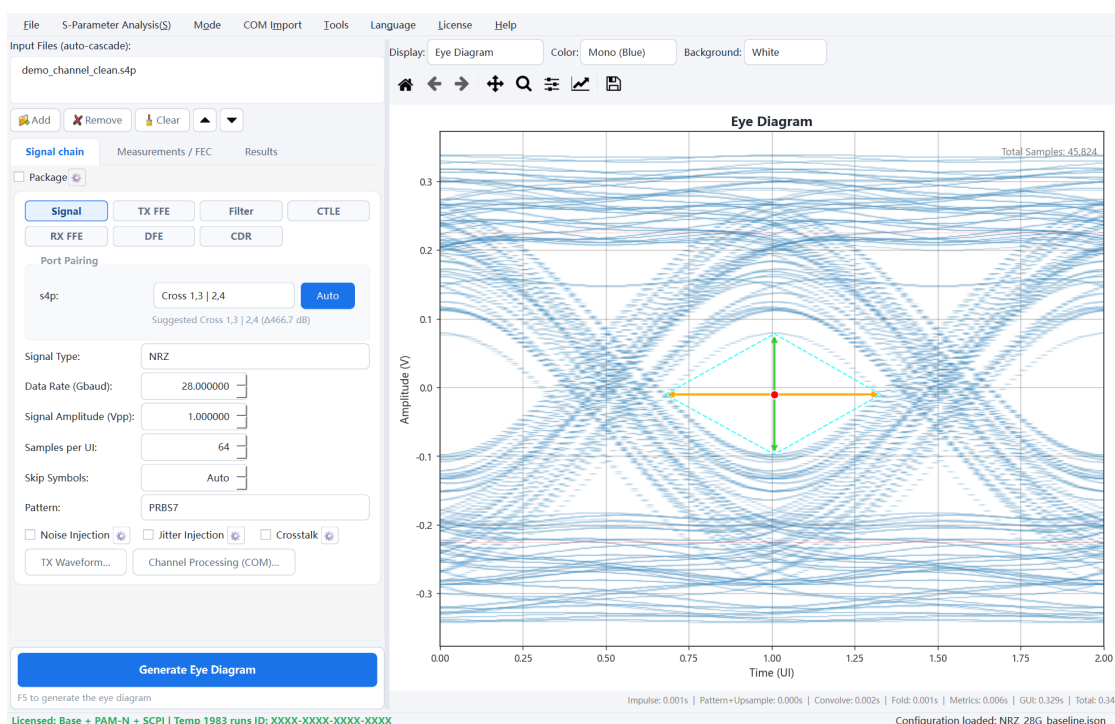
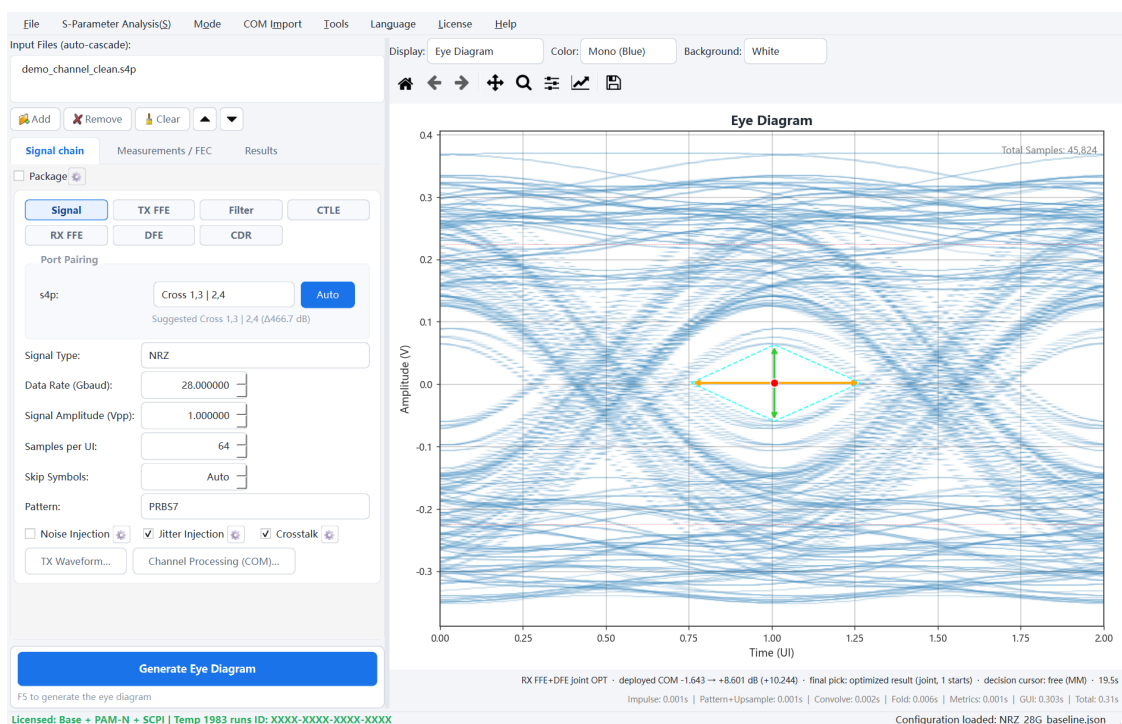

Fig. 1-3 Clean channel + defaults: a wide-open eye
Fig. 4-1 The same channel with crosstalk + jitter
Step 4 Click the fixed bottom **"Generate Eye Diagram"** button, or press F5. When calculation finishes, your first eye appears (Fig. 1-3).
Step 1 Return to Normal, clear "Input Files", add demo\sparams\demo_channel_clean.s4p, then load demo\configs\NRZ_28G_baseline.json. Generate an unimpaired eye first: it should match the trend in Fig. 1-3. Changing only the channel leaves the PAM4 rate and equalizers from Step 3 active.
Step 4 Generate the eye and compare with Fig. 1-3: the eye is fuzzier and margin is reduced (Fig. 4-1) — that is the margin eaten by crosstalk and jitter.